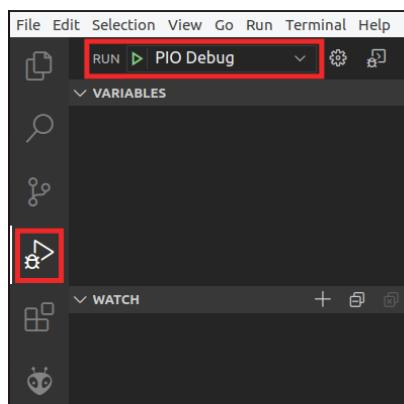

Figure 111. Start debugger
4. Click on the “Run” button . Start the debugger by clicking on the play button  (make sure that the "PIO Debug" option is selected). You can find this button near the top of the window (see Figure 111). The program will first compile and then debugging will start. PlatformIO sets a temporary breakpoint at the beginning of the main function, so the execution will stop there.